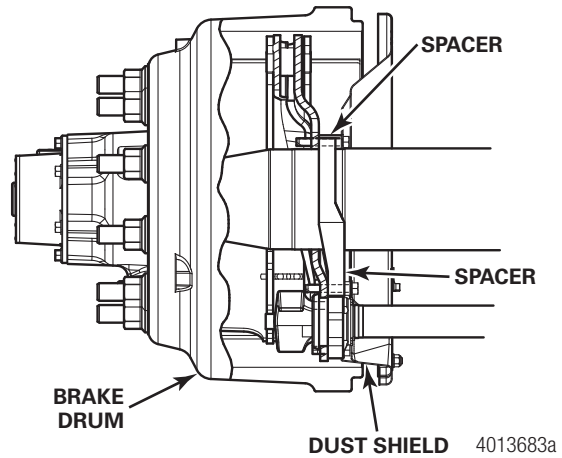

Figure 6.20
- On axles built with 16.5 x 8, 8.625-inch and 10-inch brakes, a spacer assembly is installed to space the dust shield to accommodate the wider brake equipment. Figure 6.20.